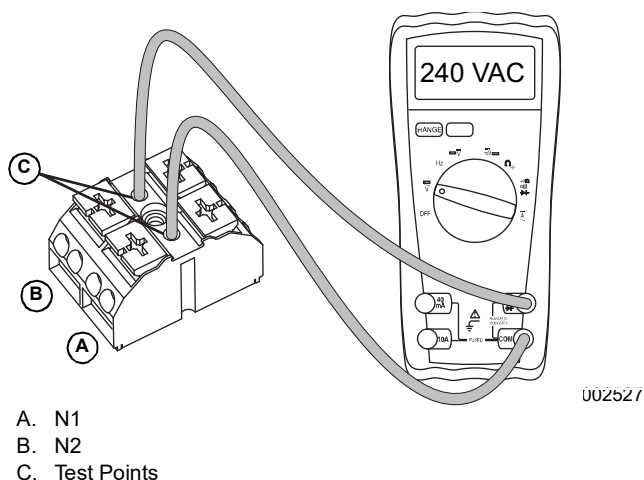

Figure 3-64. Terminal Block Test Points
3. See **Figure 3-64**. Connect one test lead to Wire N1 at the terminal block in the generator control panel. Connect the other test lead to Wire N2. Utility line-to-line voltage should be measured.